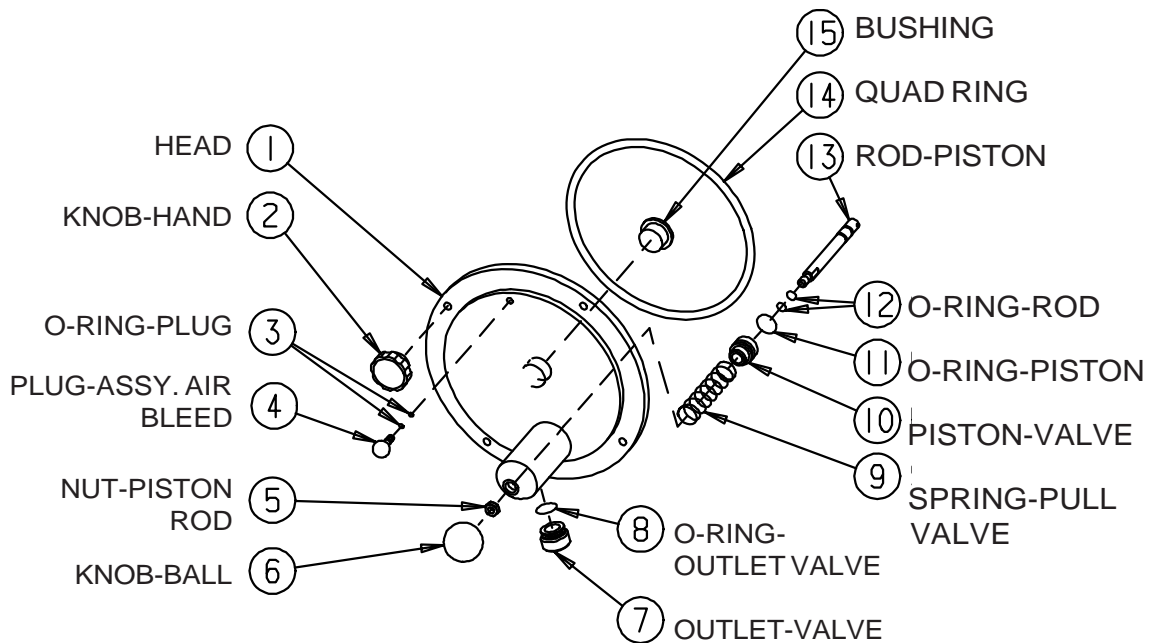

Figure 7-4 Head assembly
8. Assemble the piston assembly (figure 7-4, items 10, 11, 12, 13) by installing and lubricating the first rod O-ring (12) in the groove farthest from the threads on the piston rod (13). Then slide the piston (10) over the O-ring, large diameter end first. Now install the second (holding) rod O-ring (12) on the rod (13) in the groove closest to the threads. Install and lubricate the piston O-ring (11).
9. Insert the spring (9) into the back side of the head piston body.
11. Thread the nut (5) on the piston pull-rod until it is off the threaded portion, then screw the ball knob down tight.
12. Install and then lubricate the valve outlet O-ring (8), then insert the valve outlet (7) into the piston body.
13. Install and then lubricate the two air bleed plug O-rings (3), then insert the plug (4) into the dispense head.